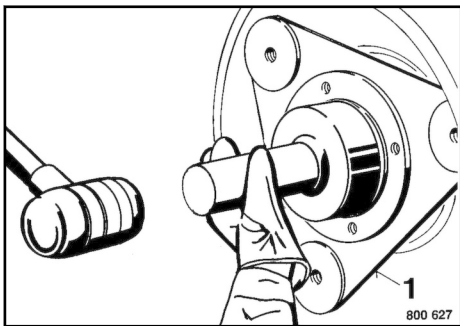

Fig. 245
2. Knock flange 1 ↪ Fig. 245 onto the bearing flange using a drift punch.